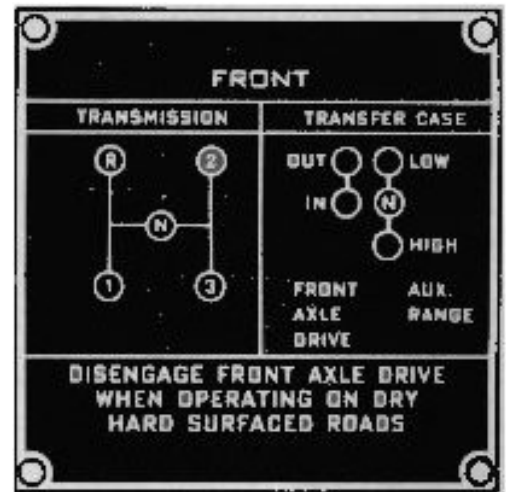

FIG. 3 -- SHIFT
- Move transmission gearshift leer to first speed position – see Fig. 3 (Note that the front axle and transfer case shift levers are not used when the vehicle is driven on the highway in rear wheel drive.)
Instructions for shifting gears in the transfer case are as follows: See Fig. 3.